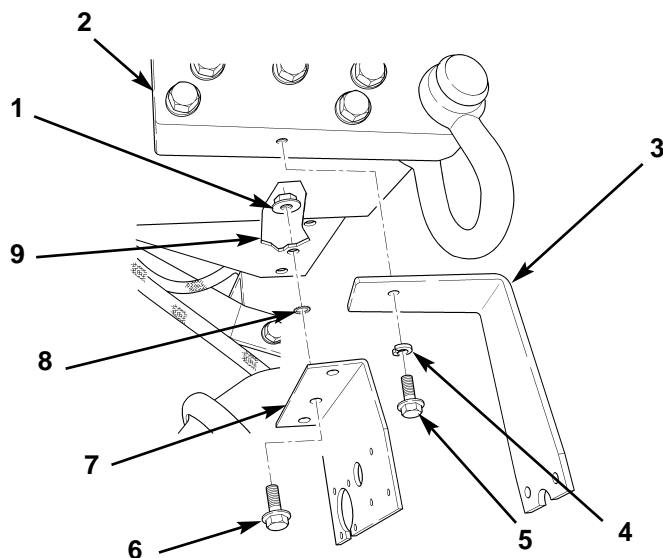

Figure 2. Installing Rear Exterior Lighting Brackets.
1. Install star washer (figure 2, item 8) and left mounting bracket (figure 2, item 7) on rear frame section (figure 2, item 9) and bracket (figure 2, item 7) with three screws (figure 2, item 6) and nuts (figure 2, item 1).
2. Install left mounting bracket (figure 2, item 3) on rear shackle mounting bracket (figure 2, item 2) with new lockwasher (figure 2, item 4) and screw (figure 2, item 5).
3. Repeat steps 1 and 2 for installation of right mounting brackets (figure 2, items 3 and 7).